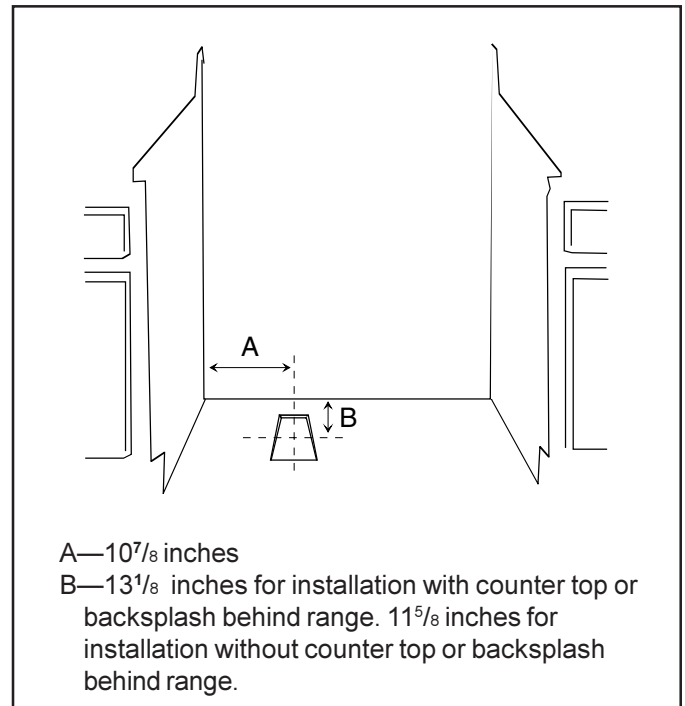

Figure 16
1. See Figure 16. Locate studs in floor.